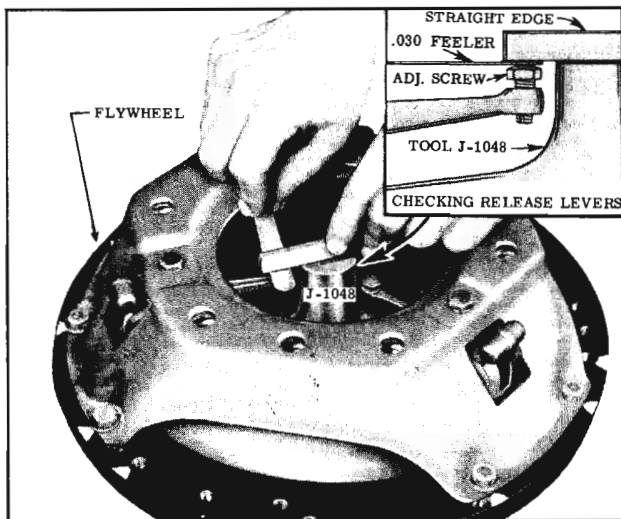

Fig. 11-54 Checking Release Levers
4. Lay a short straight edge across the center boss of the gauge as a guide for positioning release levers. (Fig. 11-54)